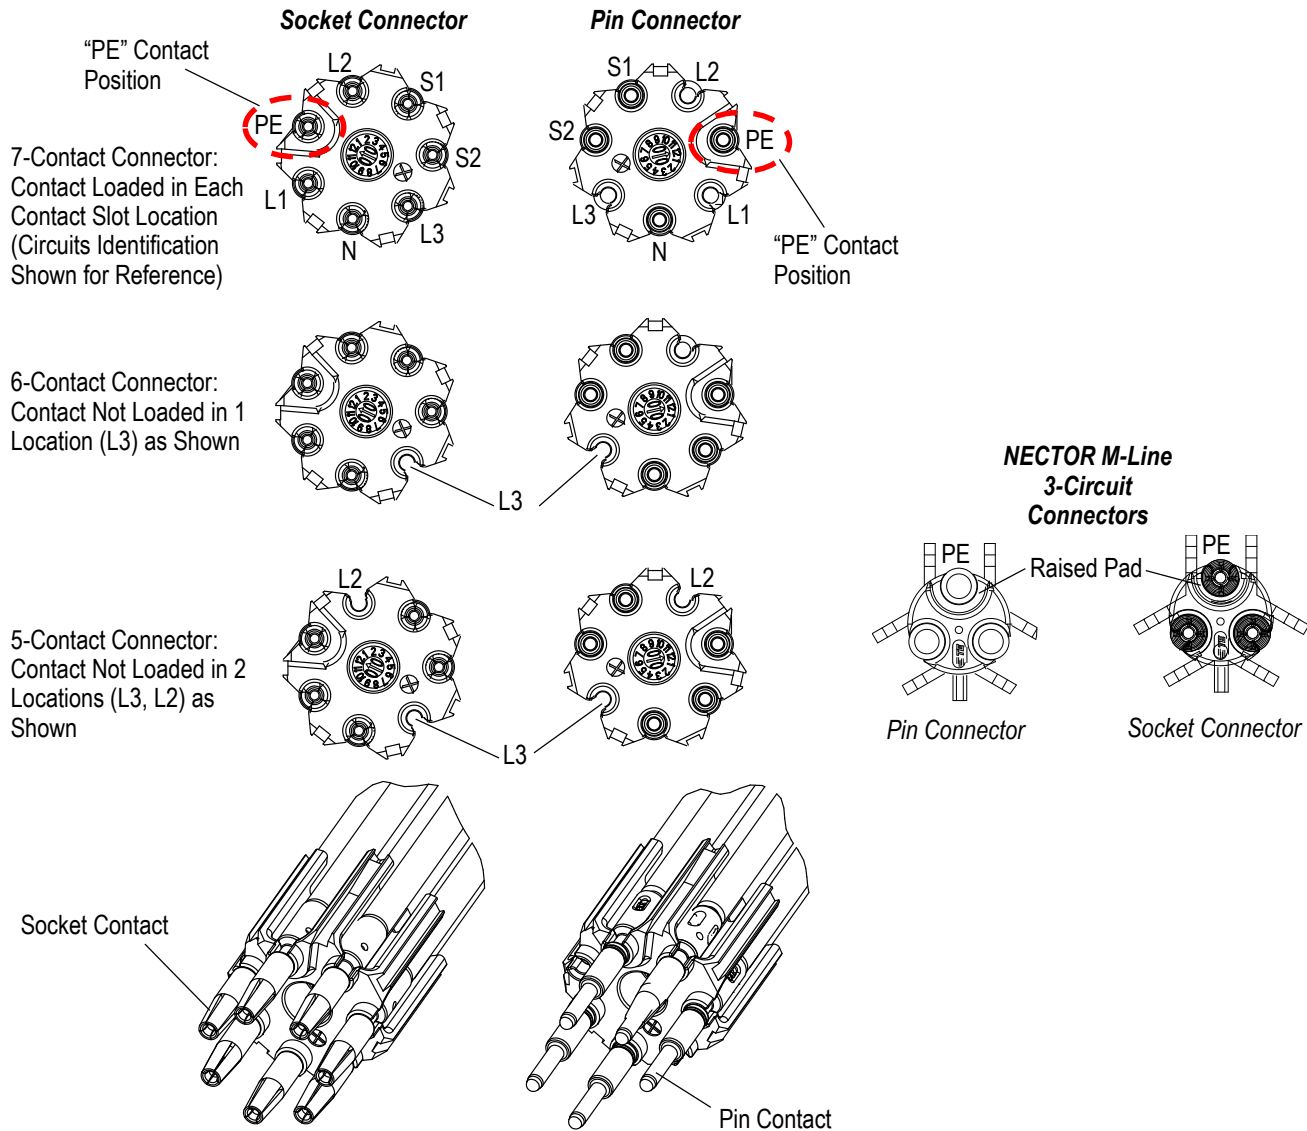

Figure 14
4. Repeat this assembly procedure for each Positioner “contact slot” to receive a contact, maintaining corresponding contact/positioner circuit assignments “L”, “S”, and “N” per Figure 14.
For a 7-contact assembly, load a contact into each contact slot of the positioner. For 5-contact and 6-contact assemblies, load contacts into the positioner contact slot locations as shown in Figure 14.
Reference Figure 14 for identification of PE circuit on NECTOR M 5/6/7-circuit product and NECTOR M 3-circuit product.